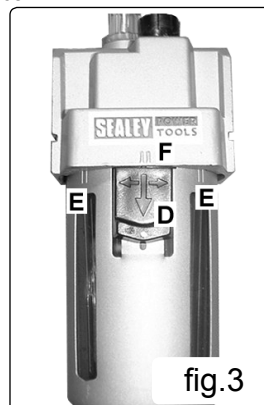

fig.3
- 5.4. Both the filter and the lubricator are supplied with a metal bowl guard. To remove the guard, pull down the latch (fig.3.D) and rotate the guard until either of the two pairs of lines (fig.3.E) on the guard align with the similar marks (fig.3.F) on the head. The guard can now be removed.